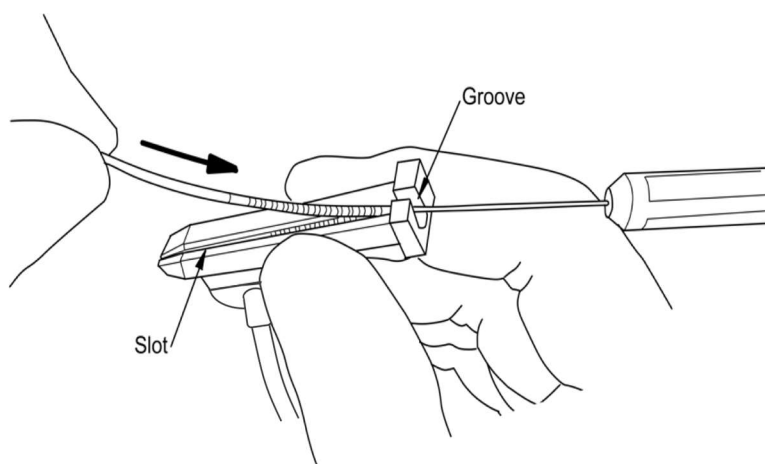

Figure 10.2: Placing tip of proximal connector into slot on the distal end of the intraoperative cable, with stylet fitting in groove.
1. Place the tip of the proximal connector end of the lead into the slot on the distal end of the intraoperative cable (see Figure 10.2). The stylet fits into the groove on the distal end.